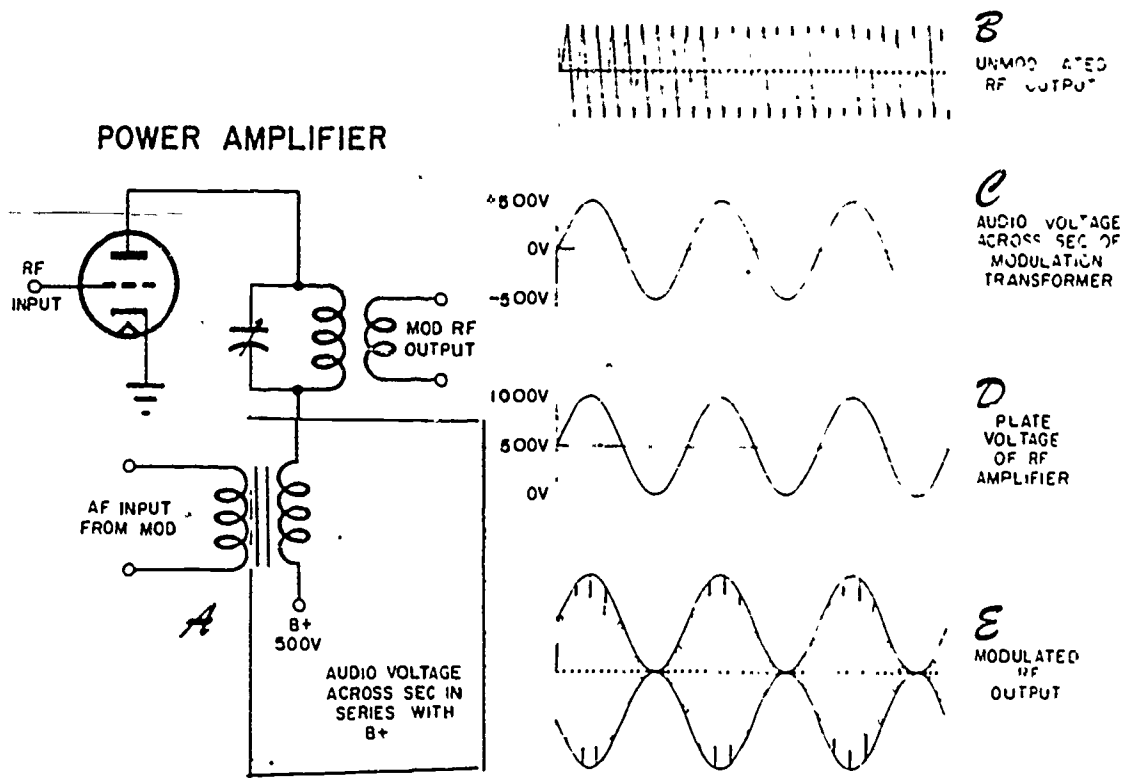

Figure 2-10. Carrier modulated at an audio rate.
- (3) The final RF amplifier produces the composite of the carrier and the audio signals. Notice in the figure that the amplitude of the carrier frequency is varying at the audio rate.
- (4) A of figure 2-10 illustrates one method of introducing the modulating AF voltage into the power amplifier. This method of modulating the carrier is known as plate modulation. The waveforms in B, C, D, and E show the effects of modulation.
- (5) The modulation occurring in the power amplifier generates sideband frequencies. Assume that the carrier frequency in B of figure 2-10 is 100 kHz, and the constant-frequency modulating signal shown in C is 1 kHz. The frequencies appearing in the plate circuit of the power amplifier are: